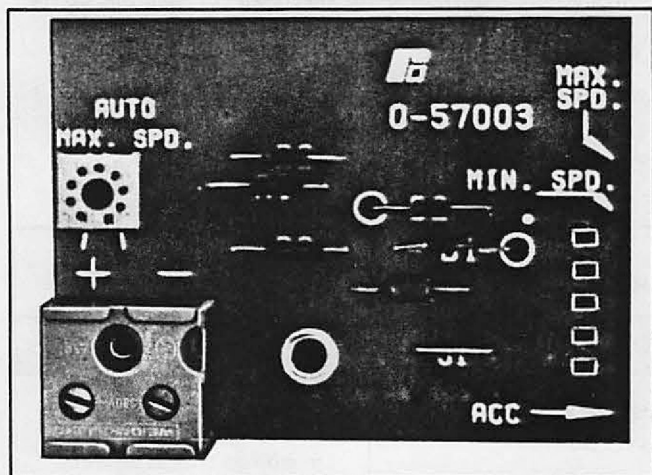

Figure 5.11 — Voltage/Tachometer Follower
**5.6 Voltage/Tachometer Follower** — The Voltage/Tachometer Follower Kit allows the FlexPak Plus to be controlled **automatically** in response to a speed reference generated by a tachometer connected to an entirely separate machine unit. Ideal applications include automatic control systems where a "second" slave drive must closely follow the speed of a master drive, or machine. (Refer to Figure 5.11.)